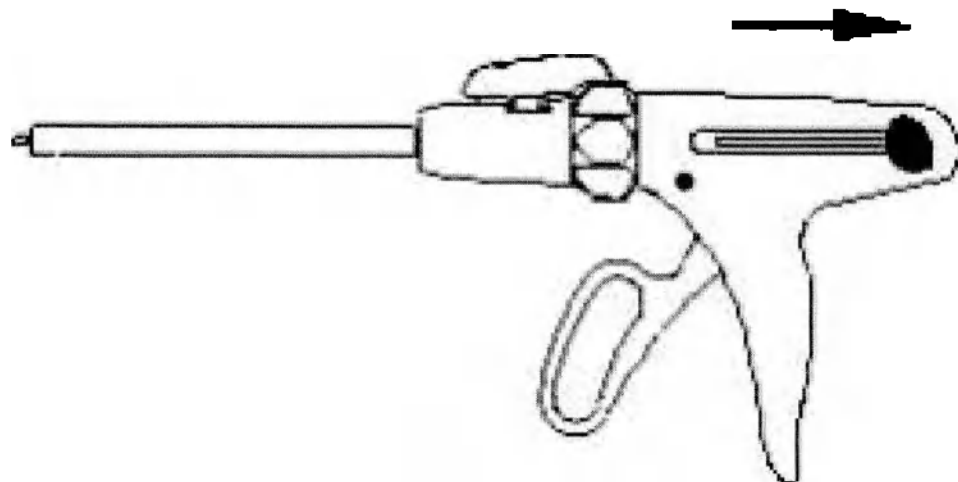

Figure 4.
1. To unload a cassette from the stapler , the lock lever must be in the neutral position. Make sure the cassette jaws are open by pulling the black return knobs all the way back. (Figure 4).